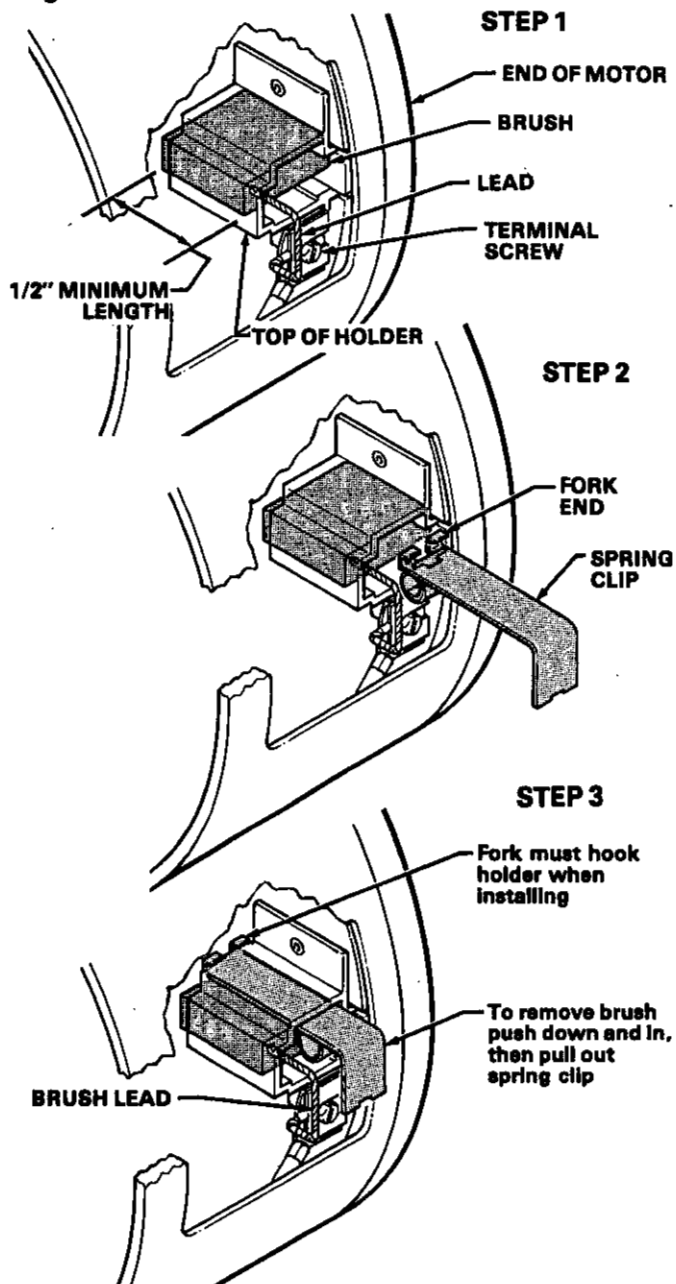

Fig 14
**NOTE:** Replace the brushes when they have worn to no less than 1/2 in. See STEP 1, Fig 14. Note that the brushes wear differently on each side of the motor. Brush Repair Kit 220-349 is available.
3. Push down and then in on the spring clip, and then pull the clip out of the brush holder. Refer to STEP 3, Fig 14. Keep the spring clip.
7. Place a new brush in the holder so the lead is at the top of the holder. Place the brush lead terminal on the terminal screw so the terminal is parallel with the brush holder. Tighten the terminal screw. See STEP 1, Fig 14.
8. With the spring roll touching the brush, push the forked end of the spring clip into the brush holder. See STEP 3, Fig 14. When the fork passes through the end of the holder, push the clip up or down until the fork hooks the end of the holder. See STEP 3, Fig 14.
9. Position the brush lead as shown in STEP 3, Fig 14. Be sure the brush lead does not touch any part of the armature or motor housing.